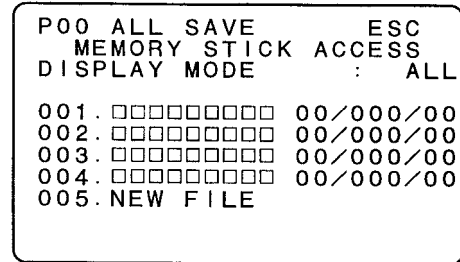

Figure 2
6. Select a destination file at the file selection page, and press the rotary encoder. (See Figure 2.)